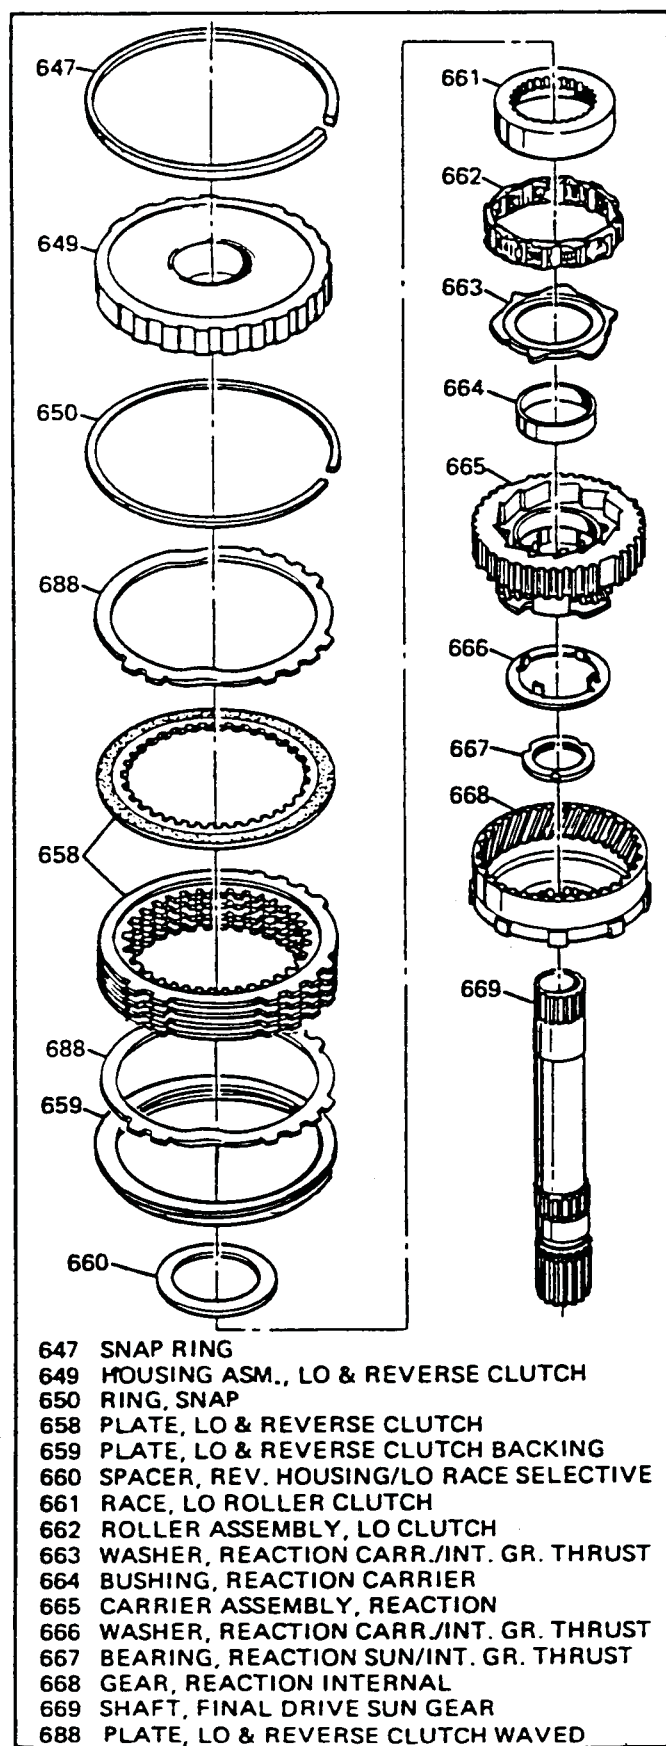

Figure 67
Addition of a wave plate, one on each end of the low and reverse clutch pack, for a total of two (See Figure 67).
1. Two Wave Plates (See Figure 67).
2. Low and Reverse Backing Plate, External lugs removed and now selective (See Figure 67). Backing plate stamped "6", "7", "8", "9", with "6" being the thinnest and "9" being the thickest.